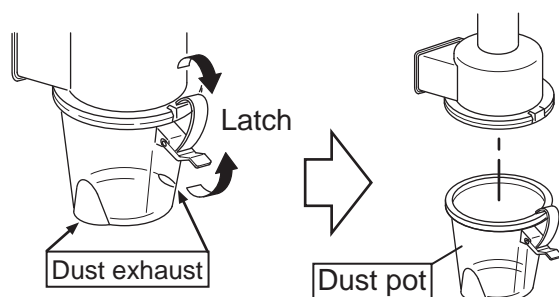

Figure 26. Unlatching Dust Pot
1. Unlatch and remove dust pot (Figure 26).